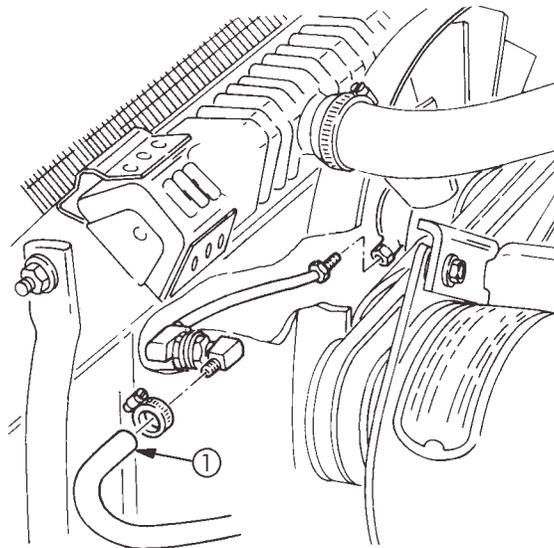

Figure 1-3. Fan Clutch Valve Pressure Test Hookup.
D. FAN CLUTCH VALVE PRESSURE TEST (Figure 1-3)
E. FAN CLUTCH PRESSURE TEST (Figure 1-3)